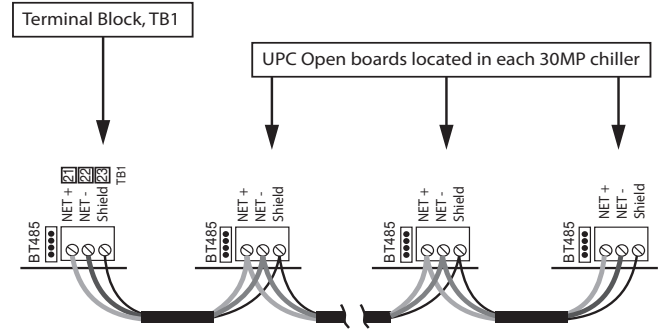

Fig. 8 — Network Wiring
2. Wire the multi-chiller controller accessory panel and the UPC Open module in each 30MP chiller on an MS/TP network segment in a daisy-chain configuration (see Fig. 8). It is not necessary to add a BT485 terminator, as it is included on the multi-chiller controller accessory panel. A BT485 terminator is a signal biasser that adds bias and prevents signal distortions due to echoing.